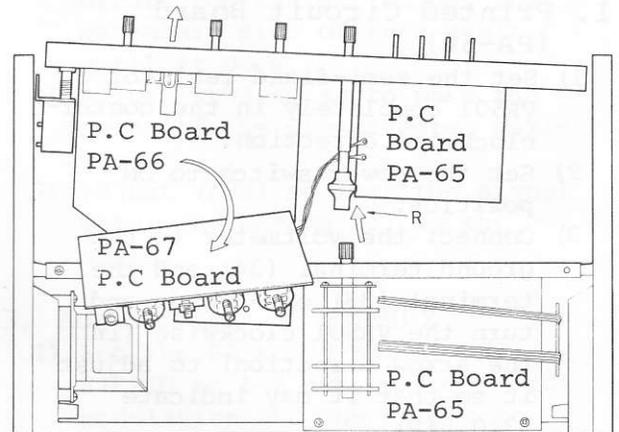

Fig. 6
- 6) With the right side panel spread outward from its normal position, lift up the tuner section and arrange it as shown in Fig. 6. To prevent short-circuiting between the tuner section's chassis and the preamplifier's printed circuit board, insert a cloth or the like in between.
- 6) Remove the coupling section (in the direction of R shown in Fig. 6) of the selector switch and extension shaft.
- 7) Lift up the front chassis and turn the printed circuit board PA-67 toward this side. (The condition shown in Fig. 6)